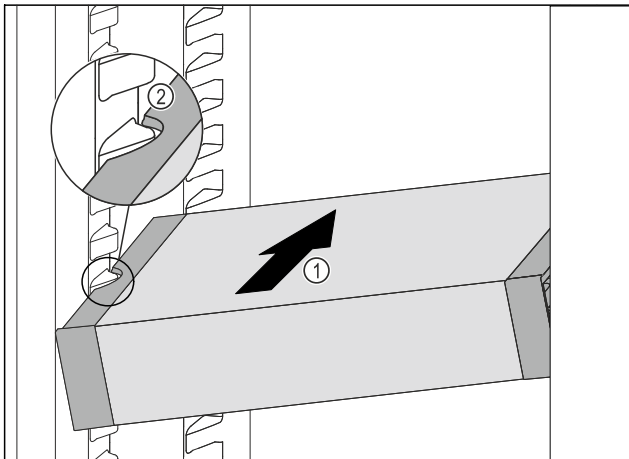

Fig. 178
- ▶ Insert the VarioSafe into the fridge section at an angle Fig. 178 (1) until the recesses in the side Fig. 178 (2) of the VarioSafe are at the level of the support rib in the fridge section.